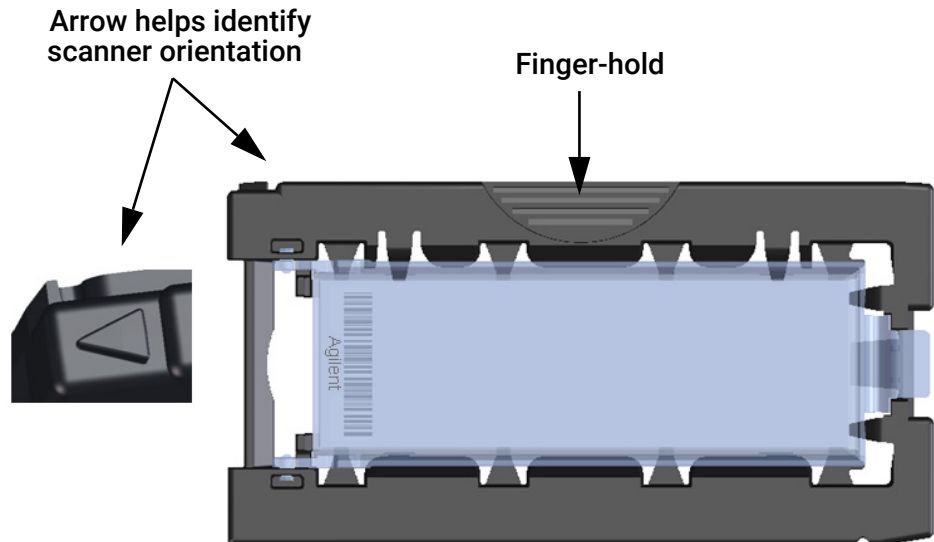
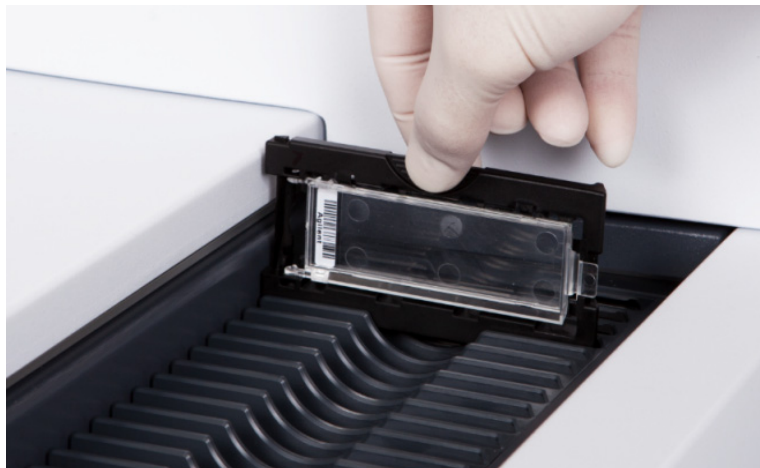

Figure 22. Slide holder helps you to insert slides correctly
Figure 23. Inserting slide holder into cassette
- 1 Put assembled slide holders into the scanner cassette. Refer to **Figure 22** and **Figure 23**.